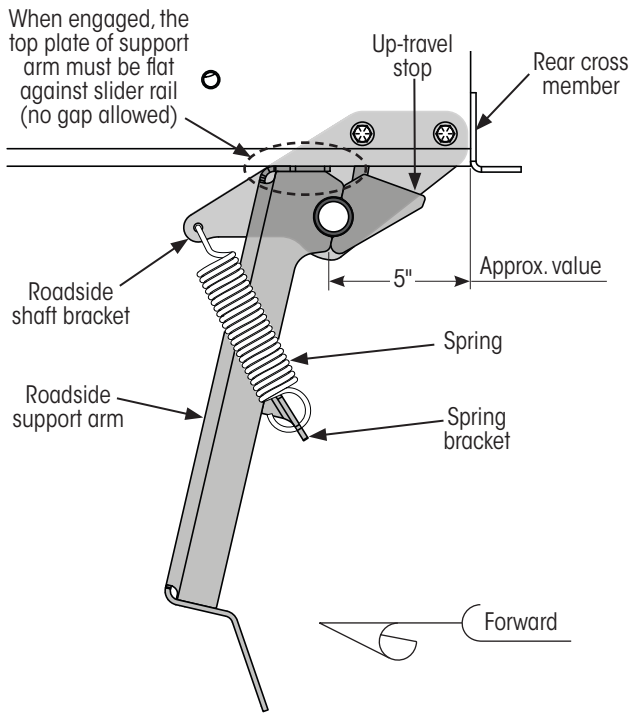
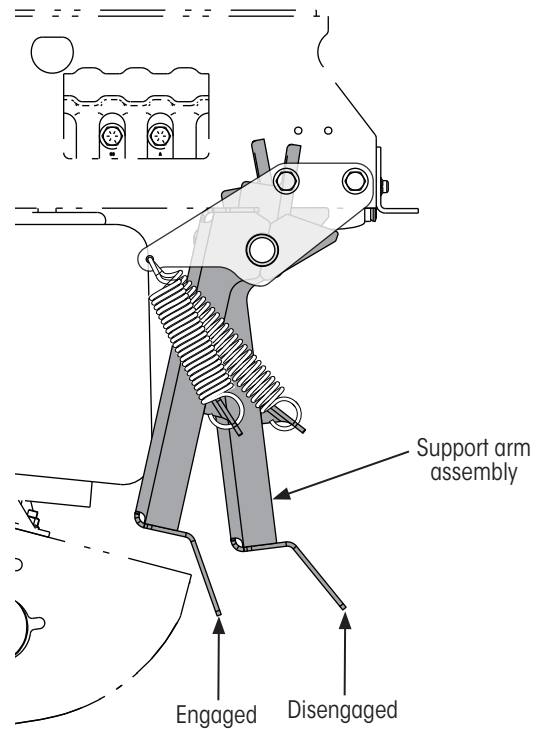

Figure 22: Verifying support arm assembly position
Figure 23: Checking support arm assembly movement
**NOTE:** At this time, spring tension should be holding the roadside support arm top front edge against the slider rail (Figure 22).
- A. **Pull** roadside support arm toward the disengaged position and **lift** shaft up so the top surface of the support arm is flat against the bottom surface of the slider rail (Figure 22).
9. **Verify** the top surface of the support arms are flat against the underside bottom surface of the slider rails and there is no gap (Figure 22) between the top of each support arm and the slider rail.
10. **Measure** between the rear crossmember and the back edge of both arms (Figure 22). This measured distance should be approximately five inches.
12. **Manually move** support arm assembly (Figure 23) between disengaged up-travel stop (Figure 22) and fully engaged positions to ensure support arms move freely without binding.